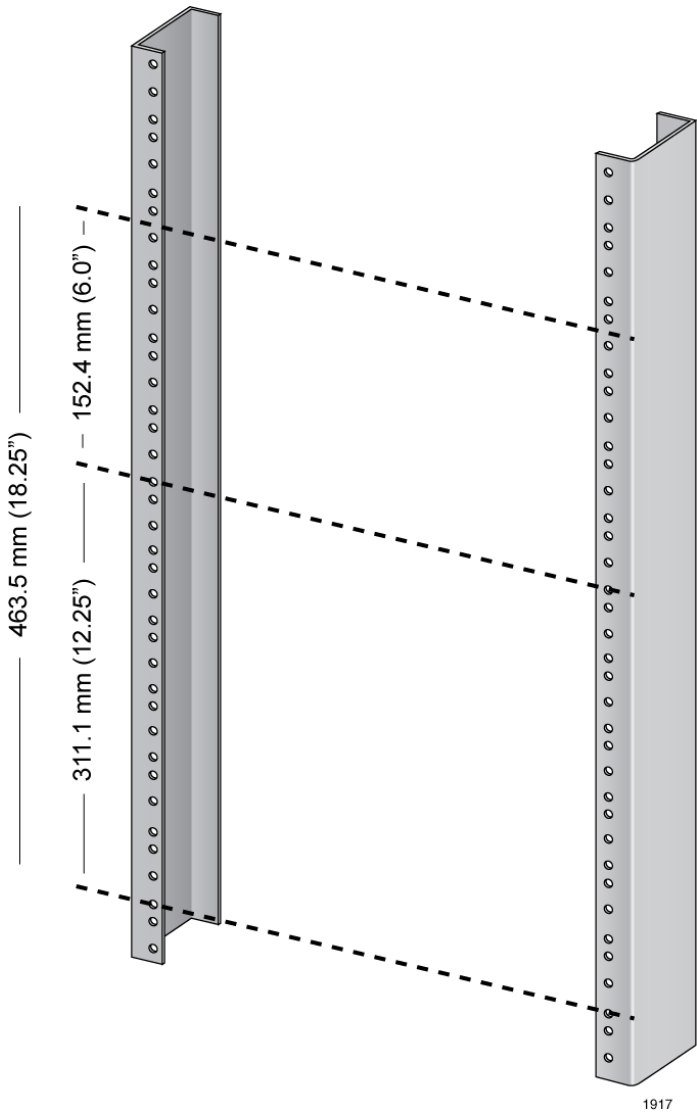

Figure 29. Reserving Vertical Rack Space
1. Reserve 311.1 mm (12.25") of vertical rack space for the installation of the AT-SBx8112 Chassis, as shown in Figure 29 on page 74.